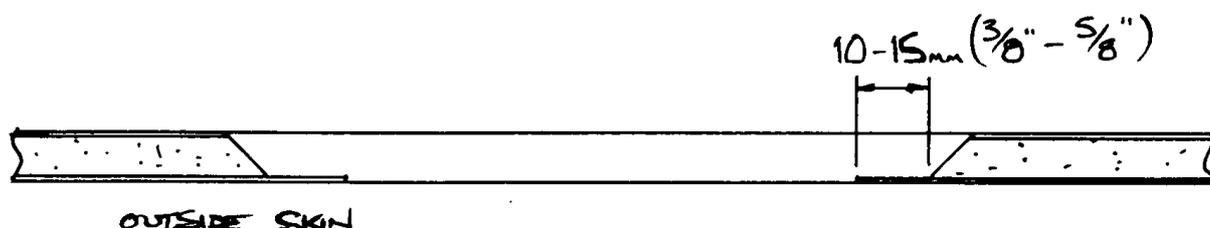

Fig 5. Hole chamfer
3. Cut the foam core and inside skin back 10 - 15 mm (0.4 - 0.6") from the hole's edge, then chamfer them back at about 45° - (figure 5).
To enable easy laying up of the glassfibre plies between the plywood pad pieces, arrange the pad to be chamfered fore and aft. Each piece should be chamfered as required on the sides also to fit the curve of the fuselage bottom. See figure 5.